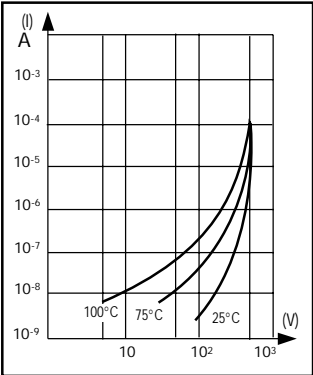

Figure 6
A typical I = f(V) curve is given in Figure 6.